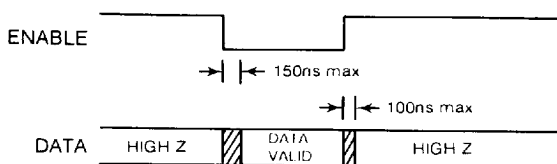

FIGURE 13. ENABLE TIMING
Output angle data is enabled onto the tri-state data bus in two bytes. Enable MSBs (EM) is used for the most significant 8 bits and Enable LSBs (EL) is used for the least significant 8 bits. As shown in FIGURE 13, output data is valid 150 ns maximum after the application of a negative enable pulse. The tri-state data bus returns to the high impedance state 100 ns maximum after the rising edge of the enable signal.